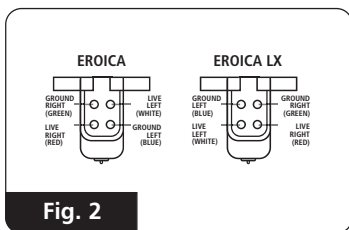

Fig. 2
(2) Connections. The contact pins are colour coded according to the international standard colour code. Connect the four pickup leads to the corresponding pins on the cartridge (see fig 2).